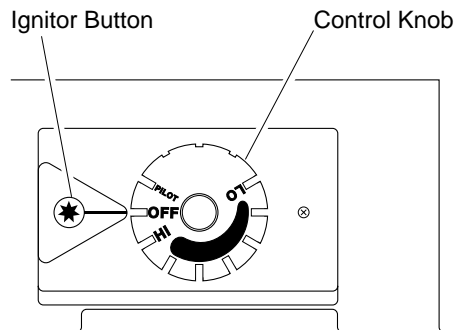

Figure 27 - Control Knob In The OFF Position
4. Wait five (5) minutes to clear out any gas. Then smell for gas, including near the floor. If you smell gas, **STOP!** Follow "B" in the safety information, column 1. If you don't smell gas, go to the next step.
5. Turn control knob counterclockwise to the PILOT position. Press in control knob for five (5) seconds (see Figure 27).